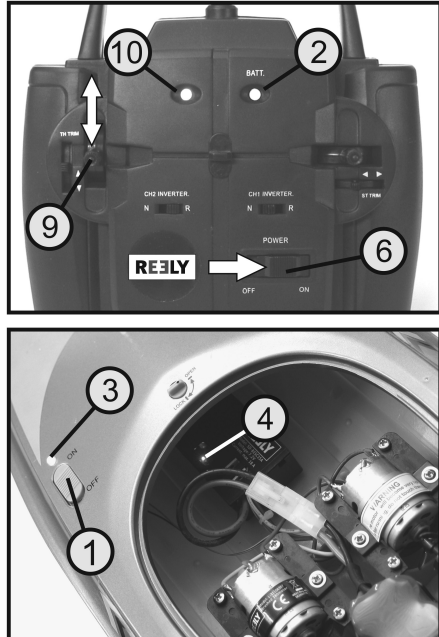

Figure 8
1. Slide the switch on the model boat (see figure 8, no. 1) back to the "OFF" position.